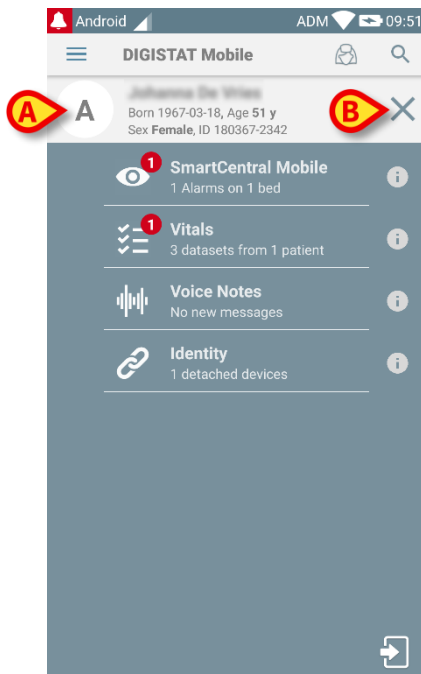

Fig 42
Patient data are on top of the page (Fig 42 **A**). All the data in all the DIGISTAT® Mobile modules are now filtered by patient (i.e. all and only the selected patient alarms/notifications are displayed).
- Touch the cross indicated in Fig 42 **B** to deselect the patient.